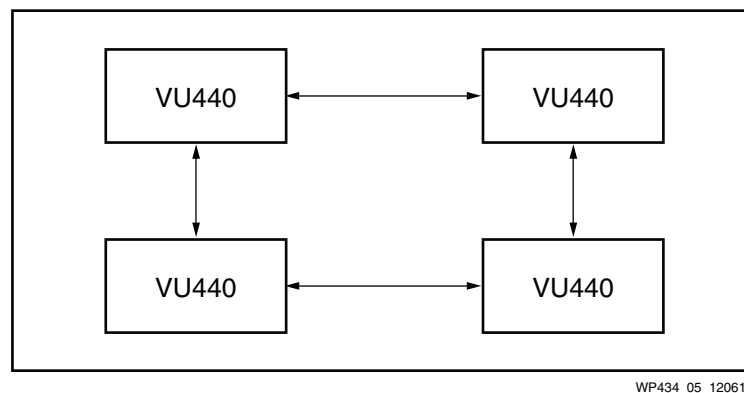

Figure 5: Multiple UltraScale FPGAs as an ASIC Prototyping Platform
At 28 nm, SSI technology enabled a breakthrough in achievable device capacity and capability with the advent of the Virtex-7 2000T FPGA—a 2 million logic cell (LC) FPGA. At 20 nm, the UltraScale architecture uses second-generation SSI technology to extend capacity leadership with the VU440 3D IC—a device with 5.5 million System Logic Cells, 90 Mb of on-chip block memory, and over 1,400 user I/Os and 48 serial transceivers. See Figure 5.